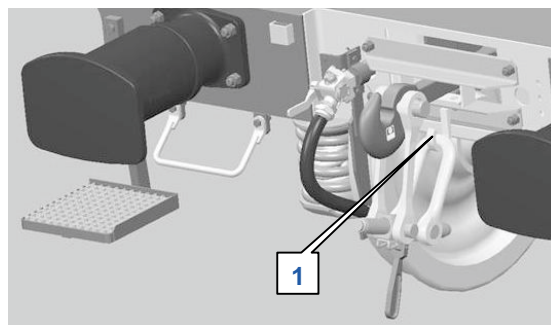

Fig. 1
- In order to avoid injuries, unused screw coupling has to be hanged on a coupling hook (1) (Fig. 1).